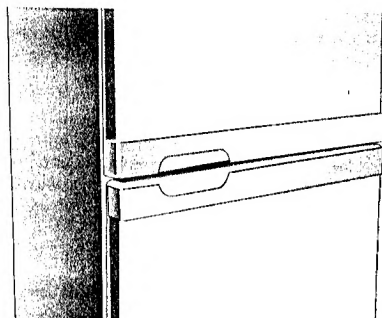

fig. 6
**MANIGLIE ORIZZONTALI BI-PORTA (Fig. 6):**
**DOUBLE DOOR HORIZONTAL HANDLES (fig. 6)**